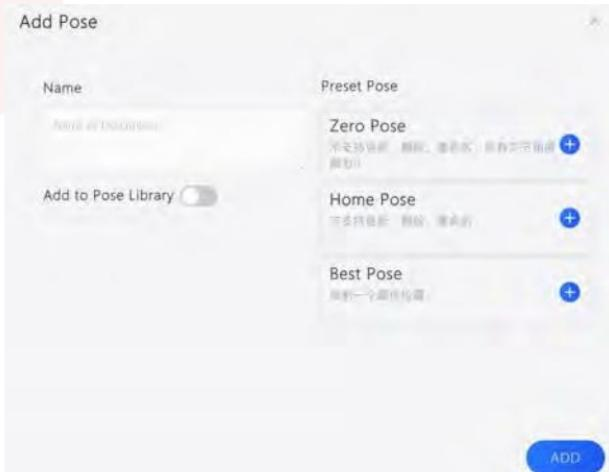

Figure 3.6 Dialog of add position
- Add Block button  in the editing area of the Timeline Editor, select the **Position**, enter the pose name in the open **Dialog of add position** (as shown in Figure 3.6), and click the button to save the current pose of the robot in a new pose block⁵.